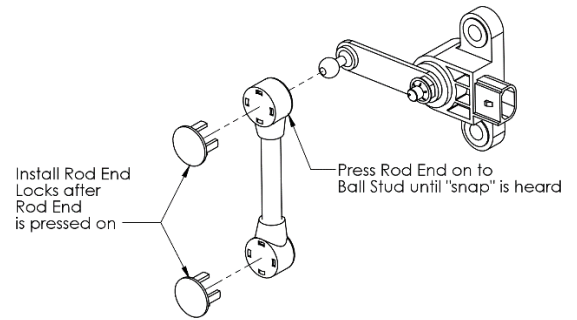

Figure 20. Height Sensor Plastic Linkage End Installation.
3. Snap the Linkage Assemblies to the ball studs attached to the lower control arms and to the ball studs on the Height Sensor arms. Refer to **Figure 20** or **Figure 21** for detail of linkage.